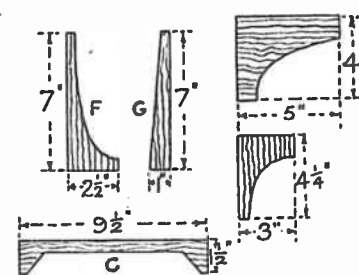

Fig. 2
rails (C) shown in detail in Fig. 2. Then at the sides the two rails (D), 1in. wide, are nailed in, all these four pieces being further strengthened when the top floor piece is laid on and fixed.
To stiffen up the whole framework, the shaped brackets (G) and (F) are introduced, and these are shown in detail in Fig. 2.